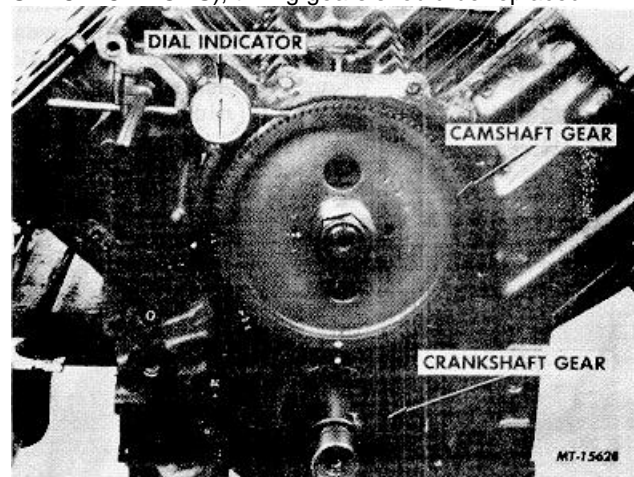

Fig. 70 Checking Camshaft and Crankshaft Gear Backlash
63. Mount dial indicator on front of engine and check and record camshaft gear-to-crankshaft gear backlash (Figure 70). If backlash exceeds specified limits (See SPECIFICATIONS), timing gears should be replaced.